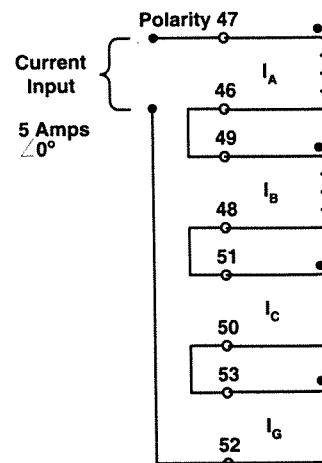

Figure 6-8 Current Calibration Configuration
4. Connect all current inputs in series ($I_A = I_B = I_C = I_N$) and apply 5.00 (± 0.01) Amps $\angle 0^\circ$. See Figure 6-8. For 1 Amp CT models, use 1.0 (± 0.01) Amps $\angle 0^\circ$.
2. Refer to Figure 6-8 and place unit in calibrate mode by configuring the proper dip switches.